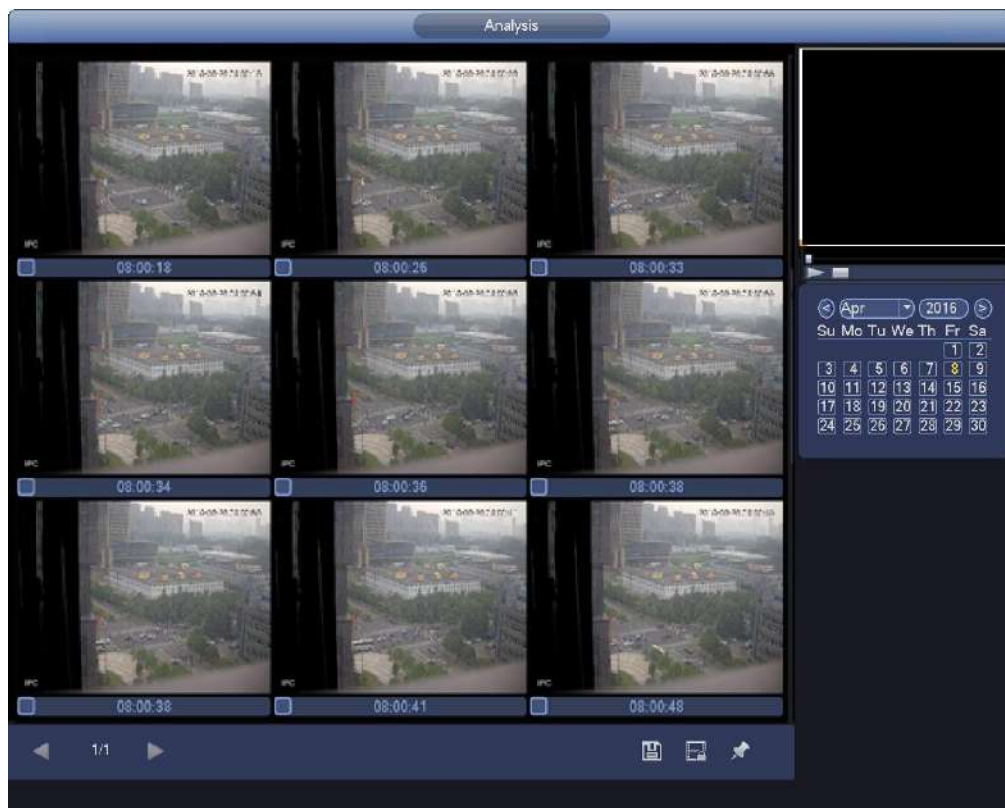

Figure 4-103
- Device displays the corresponding image. See Figure 4-103.